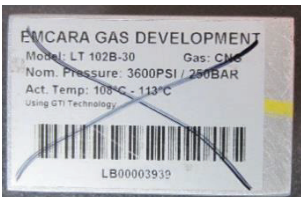

Figure 30: Cross out the label on the PRD.
1. Use a marker to cross out the label on the PRD block (Figure 30).